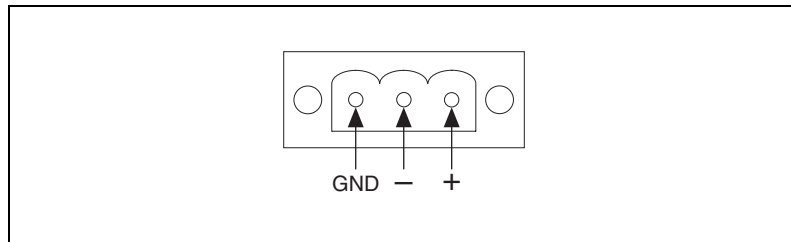

Figure 2-2. Power Receptor and Pin Assignment
3. Connect the power connector to the power receptor on the TPC-2006. The power receptor pin assignment is shown in Figure 2-2.